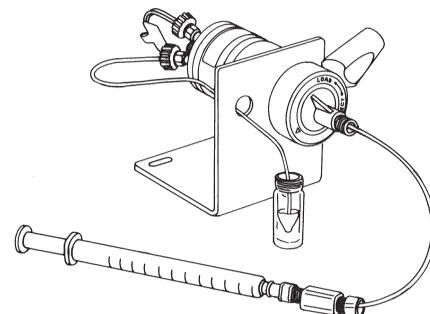

Fig. 7. Loading by suction using the Suction Needle Adapter.
- Insert an empty syringe into the needle port and suck up sample into the loop. Alternatively, use the Suction Needle Adapter (P/N 9125-076, not supplied). Use of this needle adapter is shown in Figure 7.